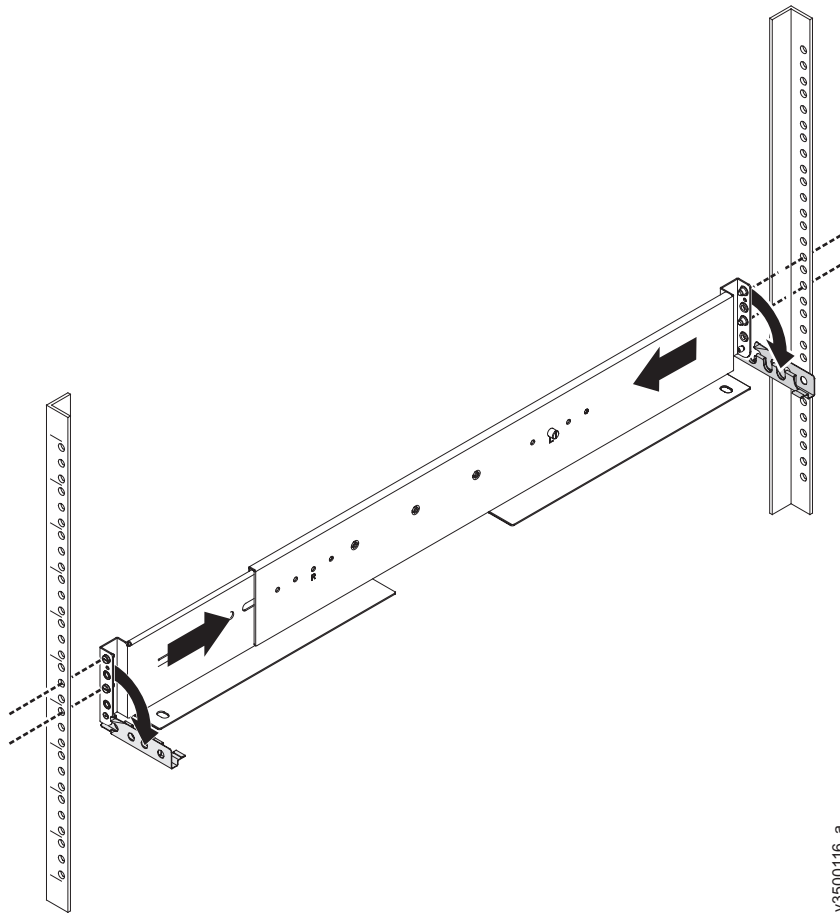

Figure 112. Compressing rail for removal from rack
11. Compress the rail against its spring to shorten it, then remove it from inside the rack (Figure 112 on page 364).
12. Repeat steps 9 on page 362 to Figure 112 on the right support rail.